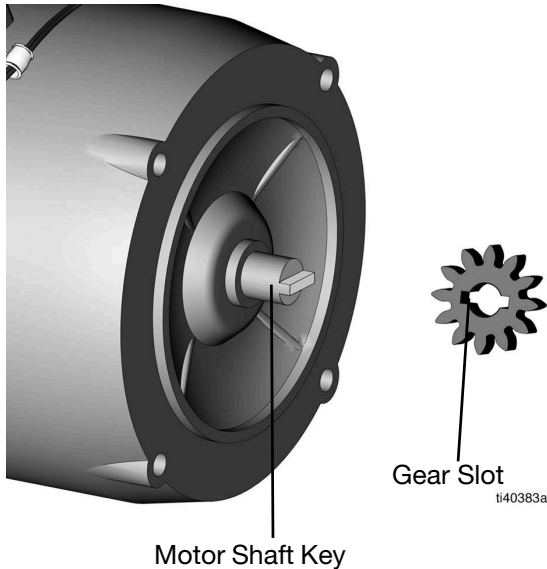

FIG. 5
- Put the pump housing assembly onto the motor. The motor shaft key should match the slot on the gear on the inside cover (FIG. 5).